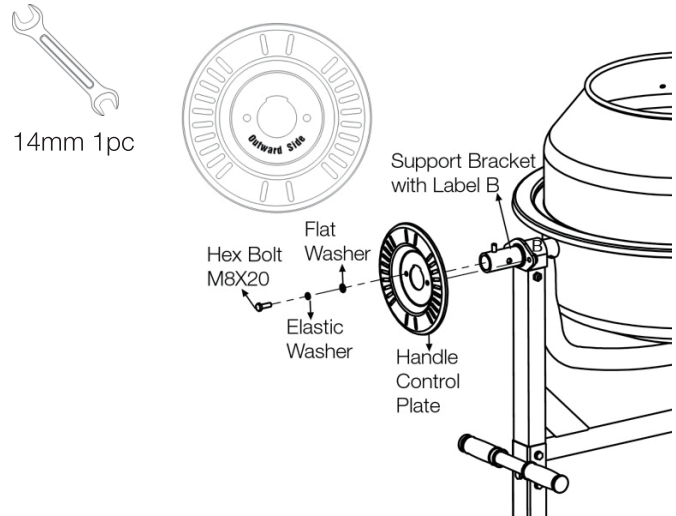

Figure 8
- There is a label on Hand Control Plate to show the direction, and Mount Handle Control Plate to Support Bracket with Label B using two M8X20 Hex Bolts, Elastic Washers and Flat Washers. Figure 8